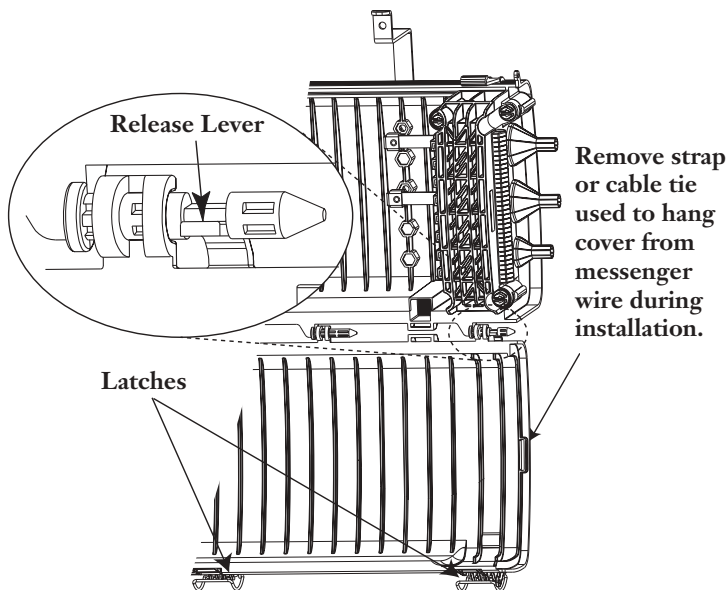

Figure 22 — Release Lever
- Step 1** If the cover was removed, slide the cover from left to right onto the hinge pins of the terminal. The release lever (Figure 22) will snap into place when the cover is completely installed.